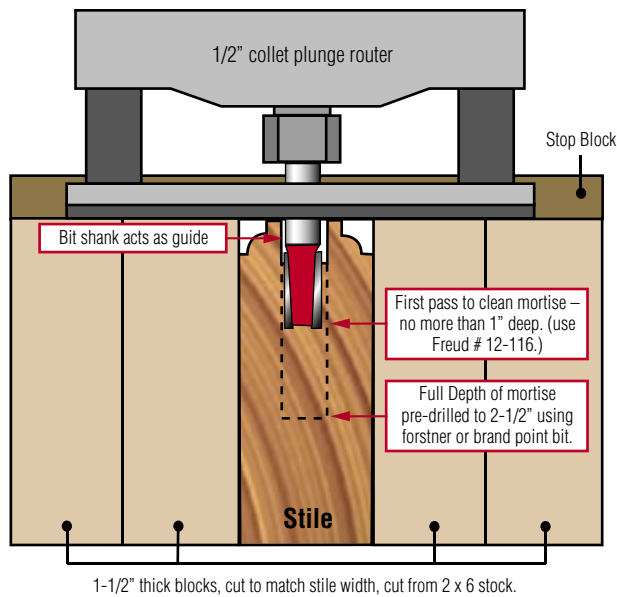

Figure 15
- A third mortising technique combines the use of the drill press and brad point or forstner bits with Freud straight router bits to finish, or “clean out”, the mortise. First, use a brad point or forstner bit (5/8” diameter for exterior doors, 3/8” for interior doors) to remove most of the stock for the mortise. Drill the holes as close together as possible. Take care to be sure the holes are perfectly centered in the groove of the stile. Next, build a simple mortising jig as shown in Figure 15 and 16.